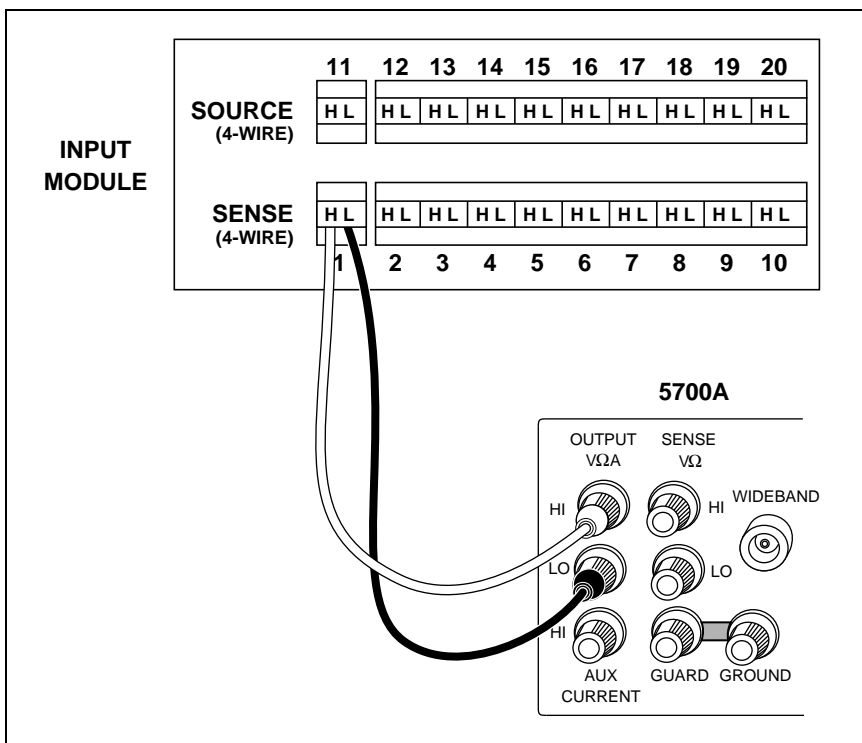

Figure 6-3. 2-Wire Connections to 5700A
2. **Connect the 5700A to Channel 1** Connect a cable from the Output VA HI and LO connectors of the 5700A to the Universal Input Module terminals for channel 1 connecting the 5700A HI to terminal H and LO to terminal L. Insert the Universal Input Module into the instrument under test (Figure 6-3).